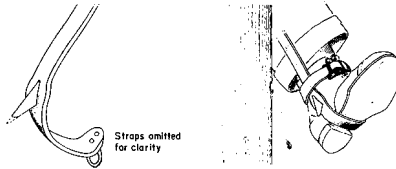

FIGURE 9. Dull Gaff
5.07 Figure 9 shows that insufficient penetration of the pole will result from a dull gaff.